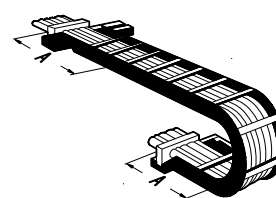

Fig. 1
- Fasten the cables at both ends of the chain (→ Fig. 1).